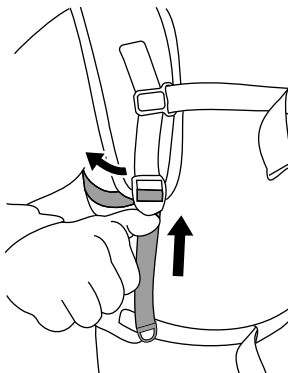

Figure 8
5. If the shoulder straps or load lifter straps are too tight, push up on the adjusters to lengthen the strap (Figure 8).